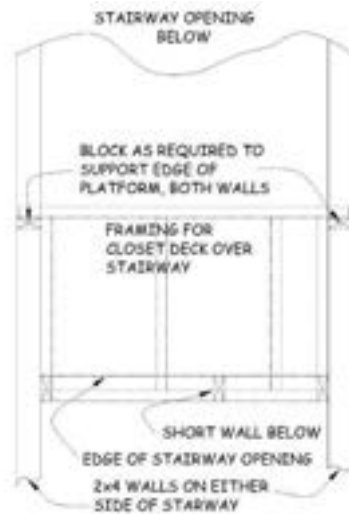

Figure 3-14. Stud Layout Around Stairway Opening.
- d. Locate the plates labeled ‘13¾” WALL/10¾” STUDS’ and layout two end studs and one interior stud 24” o.c. (see Figure 3-14 and Section 6.4).